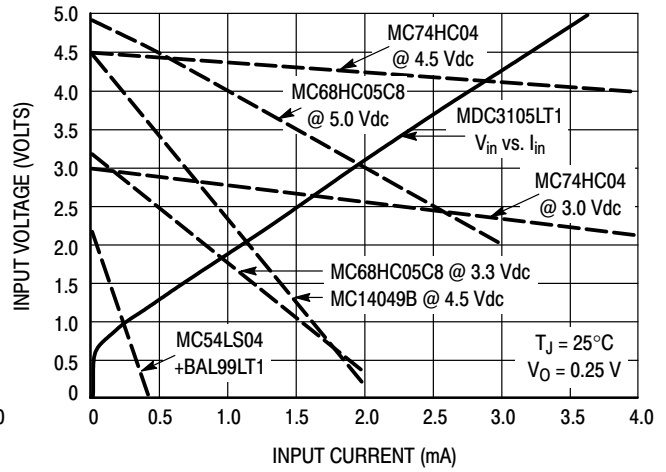

Figure 3. Input V-I Requirement Compared to Possible Source Logic Outputs
6. For levels of input current above $100 \mu A$, enter Figure 3 using that max input current and determine the input voltage required to drive the MDC3105 from the solid V_{in} versus I_{in} line. Select a suitable drive source family from those whose dotted lines cross the solid input characteristic line to the right of the I_{in} , V_{in} point.